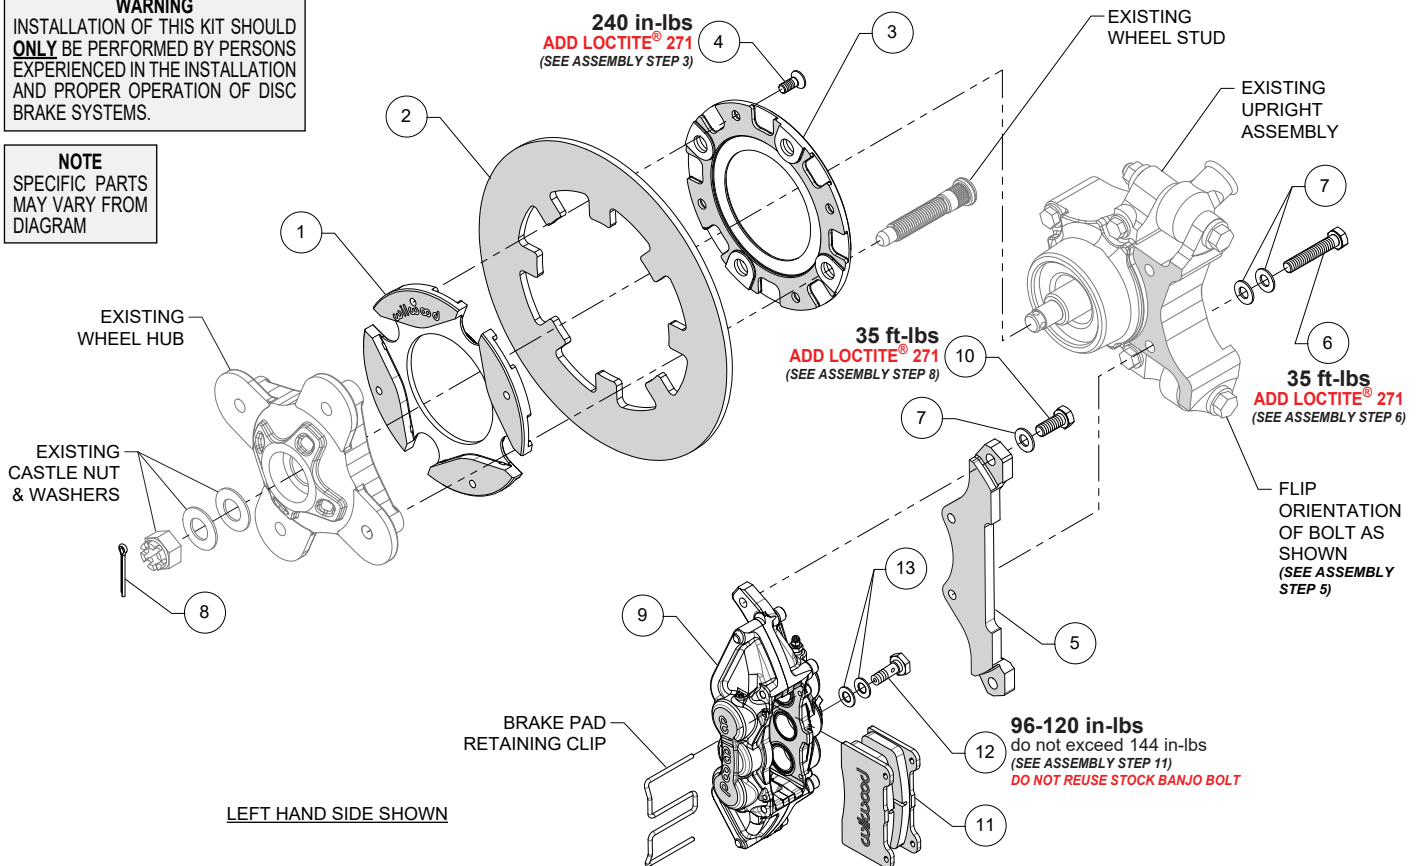

Figure 1. Typical Installation Configuration
NOTE: Numbers in parenthesis refer to the parts list and Figure 1 on the preceding pages.
STEP 2 Place the rotor adapter face down (1) as shown in Photo 1. Position the rotor (2) onto the rotor adapter (1), making sure the rotor lugs fit into the recesses of the rotor adapter, Photo 2, Figure 1.
STEP 3 Secure rotor to the rotor adapter using adapter ring (3) and bolts (4), Photo 3. Apply red *Loctite*® 271 to the bolt threads (4), and torque to value shown in Figure 1.
STEP 4 Place the existing OEM wheel hub face down and position the rotor assembly (1, 2, 3, 4) onto the wheel hub as shown in Figure 1. **NOTE:** The existing wheel hub must be free of dirt and debris or excessive rotor run out may result. Press the OEM wheel studs back in through the rotor lock ring and OEM wheel hub as shown in Figure 1.
STEP 6 Orient the caliper mounting bracket (5), as shown in Figure 1 and Photo 4. Install using bolts (6) and washers (7). Use two washers (7) on each bolt, Photo 4. **NOTE:** The end of each bolt (6) must be flush with or slightly protruding the surface of the caliper bracket. Ensure there is adequate clearance between end of bolt and rotor adapter ring. Apply red *Loctite*® 271 to the bolt threads (6), and torque to value shown in Figure 1.
STEP 7 Grease the splines and outer snout of the existing wheel hub and slide the wheel hub/rotor assembly onto the axle, Photo 5. Attach using the existing OEM washers and castle nut, Figure 1. Tighten to OEM specifications and secure using cotter pin (8), Photo 6.
STEP 8 Secure the caliper (9) to mounting bracket (5) using bolts (10) and washers (7), Photo 7. Apply red *Loctite*® 271 to the bolt threads (10), and torque to value shown in Figure 1.
STEP 9 Remove the pad retainer clip from the caliper (9). Insert the brake pads (11) into the caliper with the friction material facing the rotor, as shown in Photo 8. Reinstall the pad retainer clip, Photo 9.
STEP 11 Attach brake line to caliper. Orient brake line as shown in Photo 9 and connect to caliper using banjo bolt (12) and crush washers (13). Do not use lubricant or thread sealant on banjo bolt (12). Torque to minimum value shown in Figure 1. Check for leakage, increasing torque only to stop leakage without exceeding maximum specification. Replace crush washers and banjo bolt whenever reassembly is required. **Ensure hoses are routed to prevent contact with moving suspension, brake or wheel components.**